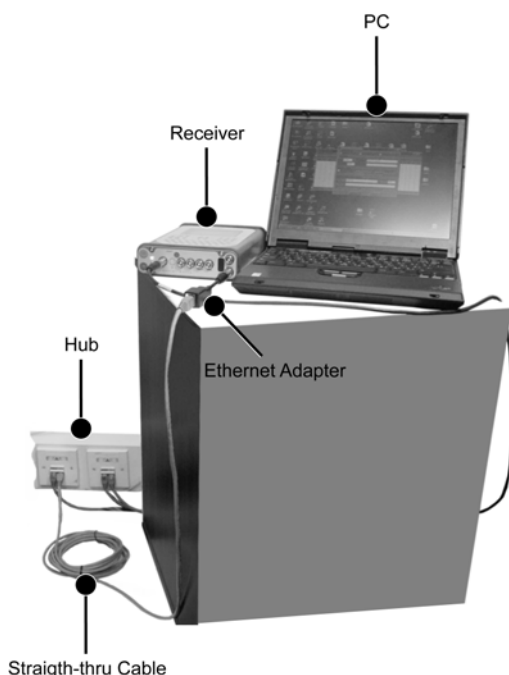

Figure 1-7. Receiver on LAN – Hardware Setup
10. Connect the Ethernet cables (Figure 1-7 on page 1-19).